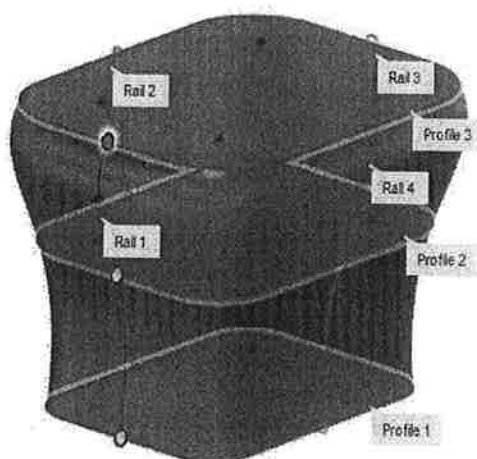

Figure 12-5
- Select  (Rails) to control the path that the geometry takes as it blends between the selected profiles, similar to that shown in Figure 12-5.